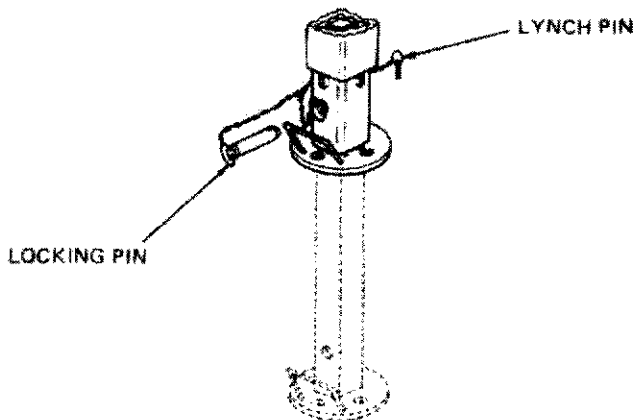

Fig. 24 Stabilizer and locking pin
- (b) Remove locking pin and lower inner extension box assembly (fig. 24).